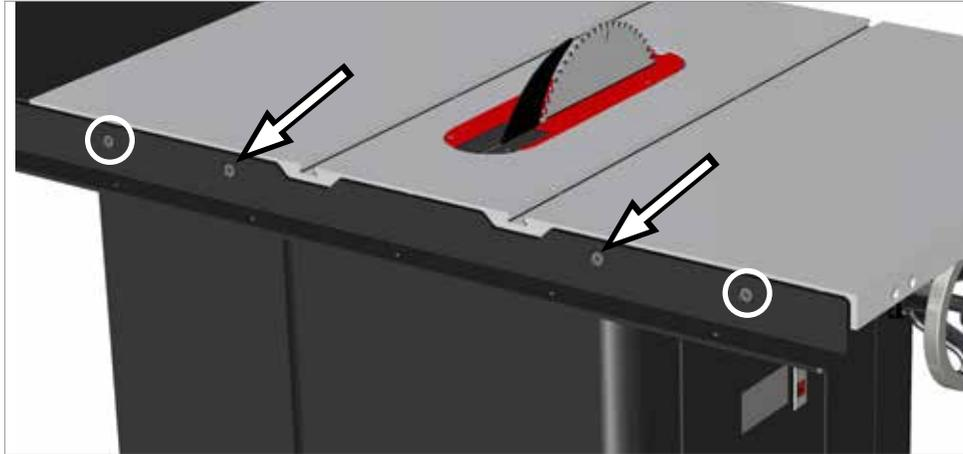

Fig. 2
2. **Installing the Rear Rail:** You install the rear rail like you installed the front rail, except that you will probably want to leave the rear rail a little loose until you get the extension table installed. The rear rail is attached to the main table by two M8 x 25 countersunk socket head bolts, as shown by the arrows in Fig. 2. Position the rear rail along the back of the table with the cut-outs at the top of the rail centered on the miter gauge slots in the table. Thread the bolts into the threaded holes and tighten using the 5 mm hex driver. See Fig. 2.
Mount the rear rail to each extension wing using an M8 x 35 countersunk socket head bolt (the longer bolts), an M8 washer, an M8 lock washer and an M8 hex nut for each of the holes shown by the circles in Fig. 2. If necessary, push down or pull up on the wings before tightening the nuts to ensure the wings are parallel to the table. As mentioned above, it is usually easier to leave the bolts in the rear rail slightly loose until the extension table is installed as it may be difficult to position the extension table between the rails if both rails are tightened down.